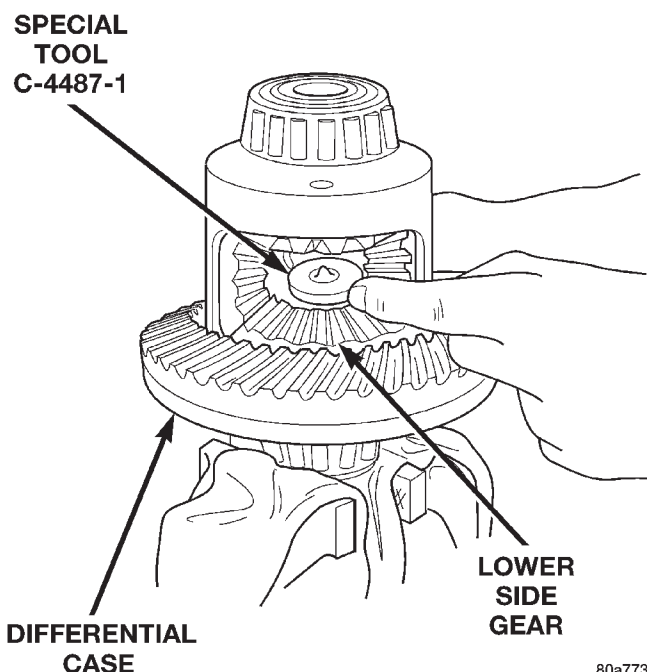

Fig. 57 Step Plate Tool Installation
(6) Install and lubricate Step Plate C-4487-1 (Fig. 57).
(7) Assemble Threaded Adapter C-4487-3 into top side gear. Thread Forcing Screw C-4487-2 into adapter until it becomes centered in adapter plate.